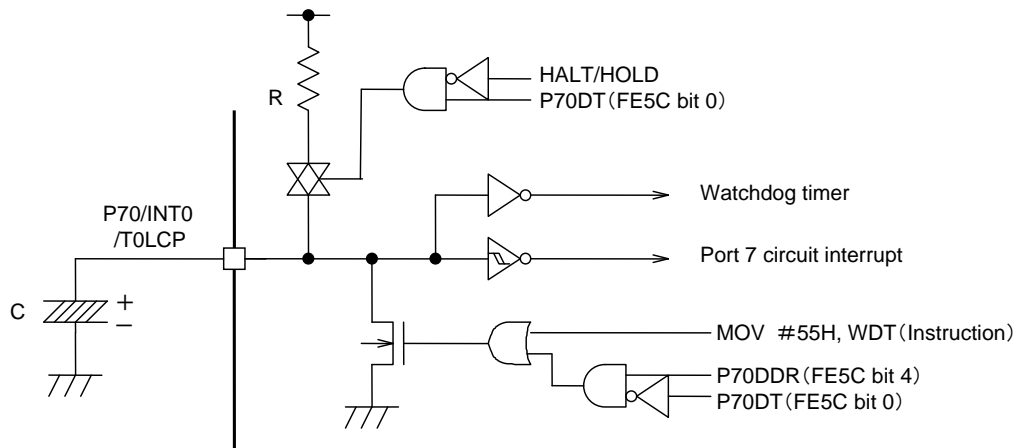

Figure 4.5.3 Sample Application Circuit with a Programmable Pull-up Resistor
- 3) The external resistor to be connected to the watchdog timer can be omitted by setting bits 4 and 0 of the port 7 control register (P7:FE5C) to 0 and 1 and connecting a programmable pull-up resistor to the P70/INT0/T0LCP pin (see Figure 4.5.3).